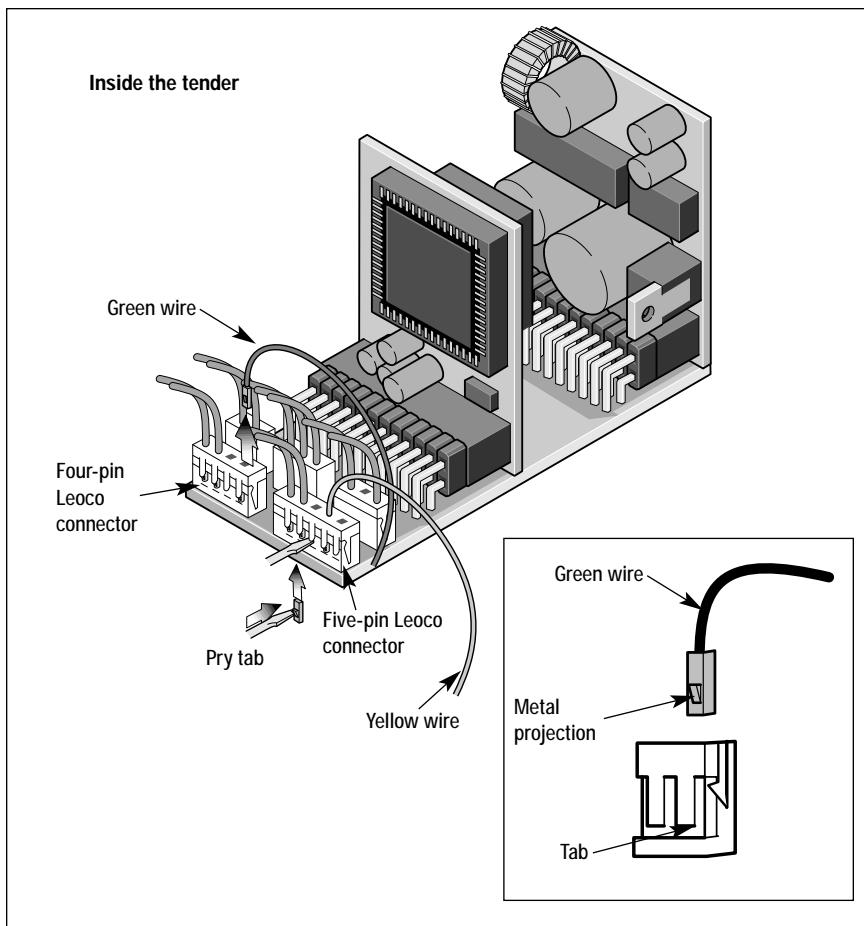

Figure 7. Leoco connector
10. If you are upgrading to the RailSounds sound system only (and you are NOT upgrading to Command Control), install the green wire into the fourth position on the five-pin Leoco connector, which was previously held by the yellow wire. Refer to Figure 7.
11. If you are upgrading to both RailSounds and Command Control, the green wire must be installed in the fourth position of the four-pin Leoco connector. Refer to Figure 7.